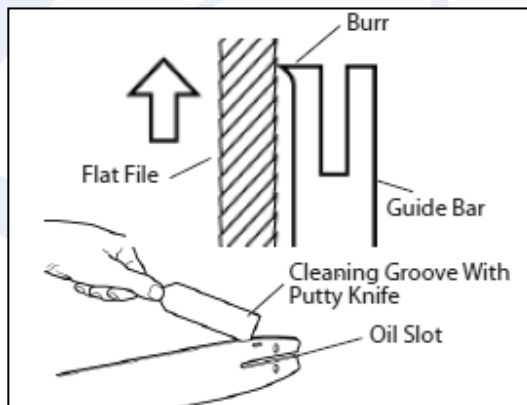

Figure 10
2. Remove sawdust from guide bar groove periodically. Use putty knife or wire (See **Figure 10**).